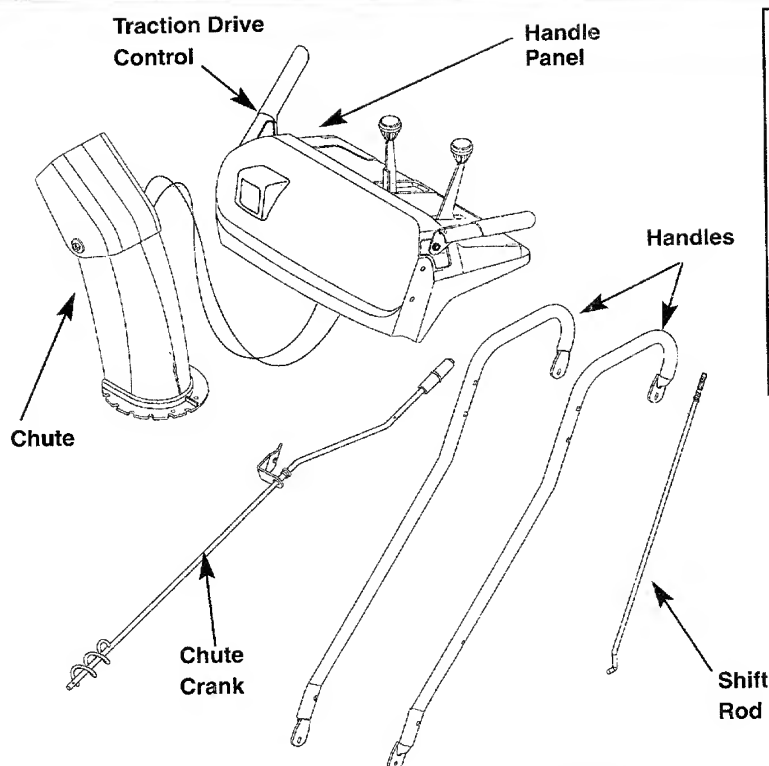

Figure 1
**NOTE:** To determine right and left hand sides of your snow thrower, stand behind the unit with the engine farthest away from you. See Figure 1 inset.
(See Figure 1.)